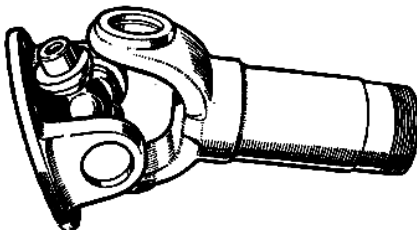

Fig. D-4—Removing the splined sleeve or shaft.
7. The splined sleeve (or shaft) yoke can now be removed (Fig. D-4).